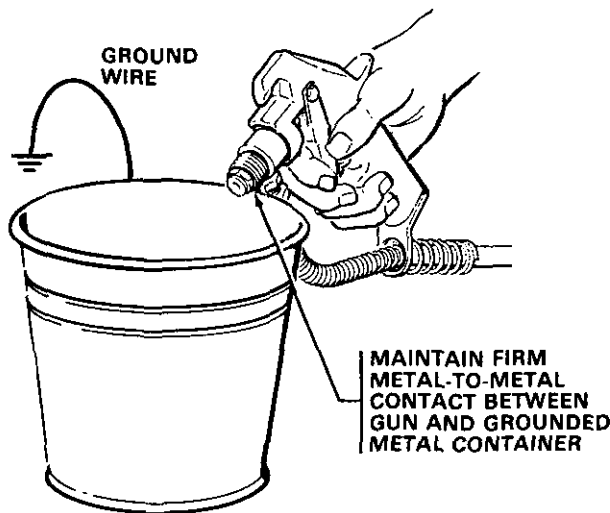

Fig 10
To reduce the risk of static sparking and splashing, always remove the spray tip from the gun, and hold a metal part of the gun firmly to the side of a grounded metal pail when flushing. See Fig 10.
- ON/OFF switch to ON and slowly turn the pressure adjusting knob clockwise **just until** the sprayer starts. Keep the gun triggered until clean solvent comes from the nozzle. Release the trigger and engage the gun safety latch. See Fig 10.